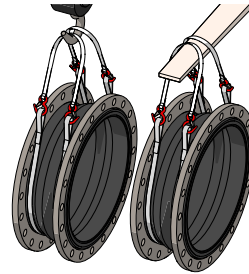
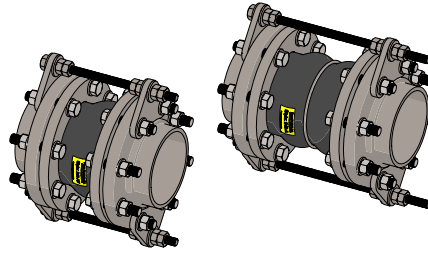

Figure 2: Large Joint Handling
Figure 13: Figure 2 Control Rod Configuration
In the case of large size expansion joints, special care should be taken in loading, hoisting and lowering, being careful not to hit against adjacent equipment, forklift tines, crane cables, etc. Lift utilizing nylon slings around the exterior of the expansion joint as shown in Figure 2. Position the slings to each side of the arch; this will help prevent any damage to the arch as well as to ensure that the weight is evenly distributed during installation.
4.2.3 Figure 2: Control Rod Configuration:
The Figure 2: Control Rod configuration shown in Figure 13, otherwise known as Figure 2 is designed to control both the extension and compression capabilities of the expansion joint as well as restrain the pressure thrust loads experienced across the expansion joint.